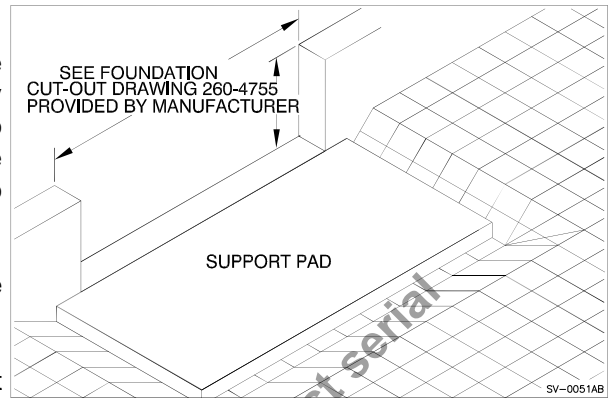

Figure 31: Foundation cut out and support pad
1. ___ Find the pre-determined floor level (See “Figure 31: Foundation cut out and support pad” on page 24) and ensure the foundation cut-out and support pad are in place to properly locate and support the dock leveler is appropriate according to the sizes shown on the dock leveler drawing provided by the Pentalift. For the dimensions of the foundation cut-out refer to Pentalift drawing 260-4755.